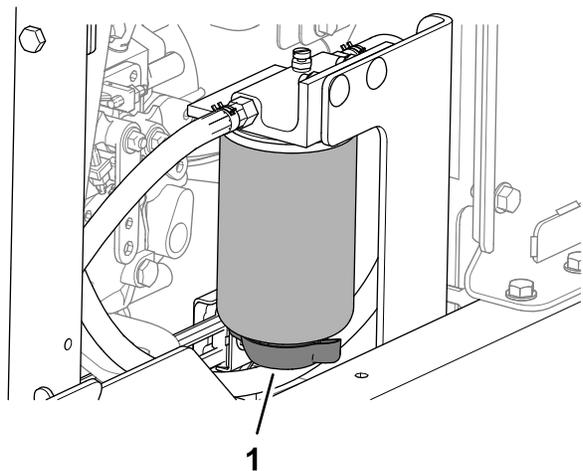

Figure 84
3. Align a drain pan under the drain valve of the fuel-water separator (Figure 84).